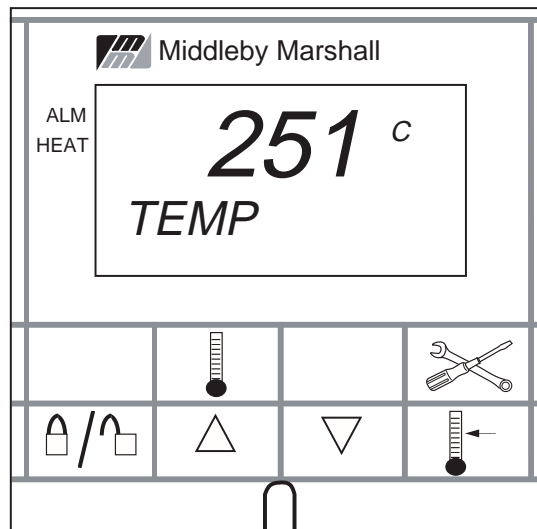

Figure 3-8
2. Displaying the actual oven temperature. See Figure 3-8.